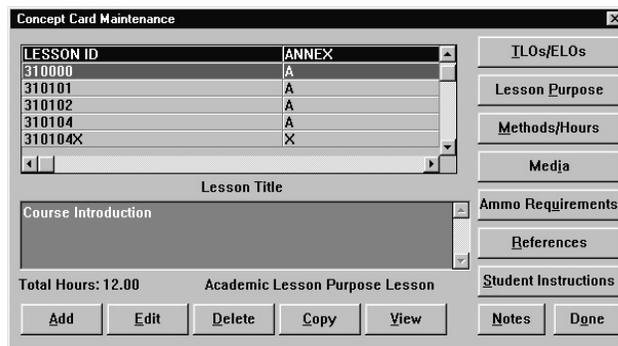
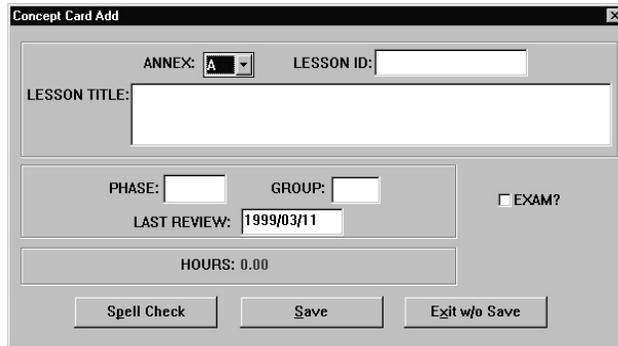

Figure 6-72. Concept Card Maintenance
Figure 6-73. Concept Card Add
1. From the Maintenance drop-down menu, choose Concept Card. The Concept Card Maintenance selection list box (Figure 6-72) opens.
1. From the Concept Card Maintenance selection list box (Figure 6-72), click on **Add**. The Concept Card Add dialog box (Figure 6-73) opens.
- From the Concept Card Maintenance selection list box (Figure 6-72), highlight the desired lesson by clicking on it.
- Click on **Edit**. A dialog box similar to the one in Figure 6-73 opens.
1. From the Concept Card Maintenance selection list box (Figure 6-72), highlight the desired lesson by clicking on it.
- c. If the concept card is in the Approved status and (1) you have access to Evaluation Maintenance or (2) you do not have access to Evaluation Maintenance but there are no test items assigned to any learning objectives on the concept card being deleted, a message appears to confirm your wish to delete this concept card. Click on **Yes**. MCAIMS depicts the deletion of the concept card and the deletion of any orphaned elements of information in the Locally Approved course. When the deletion process is complete, the system responds in one of two ways.